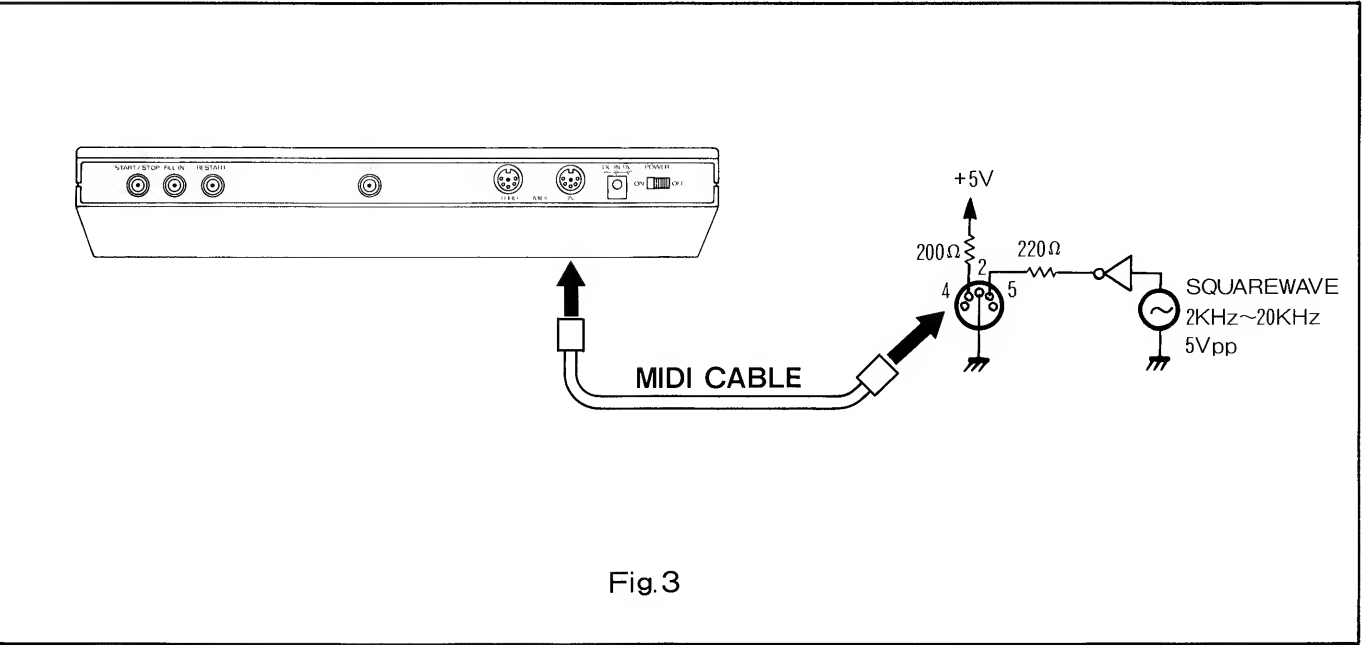

Fig.3
- 2) Apply a squarewave (5Vpp, 2KHz-20KHz) to MIDI IN jack as shown in Fig. 3. The CPU reads the square-wave and displays the result.